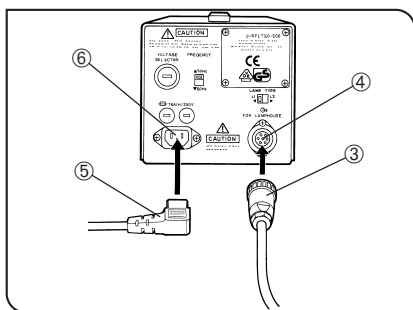

Fig. 22
1. Plug the connector ③ from the burner socket securely into the connector ④ on the power supply unit. (Fig. 22)
2. Connect the power cord connector ⑤ to connector ⑥ firmly. (Fig. 22)